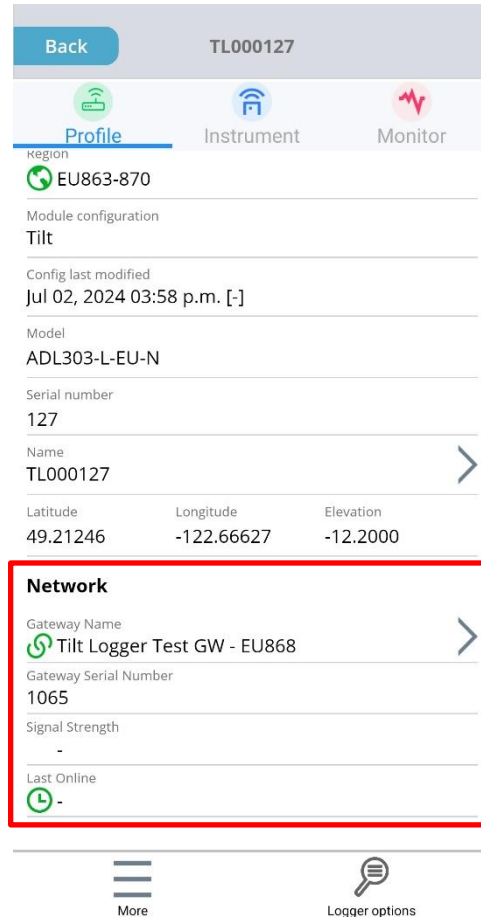

Figure 11: Main Dashboard Populated with Selected Gateway's Details
3. After selecting a Gateway, the user will be returned to the Main Dashboard. Gateway information will populate, replacing the “Pair Gateway” option (see Figure 11).